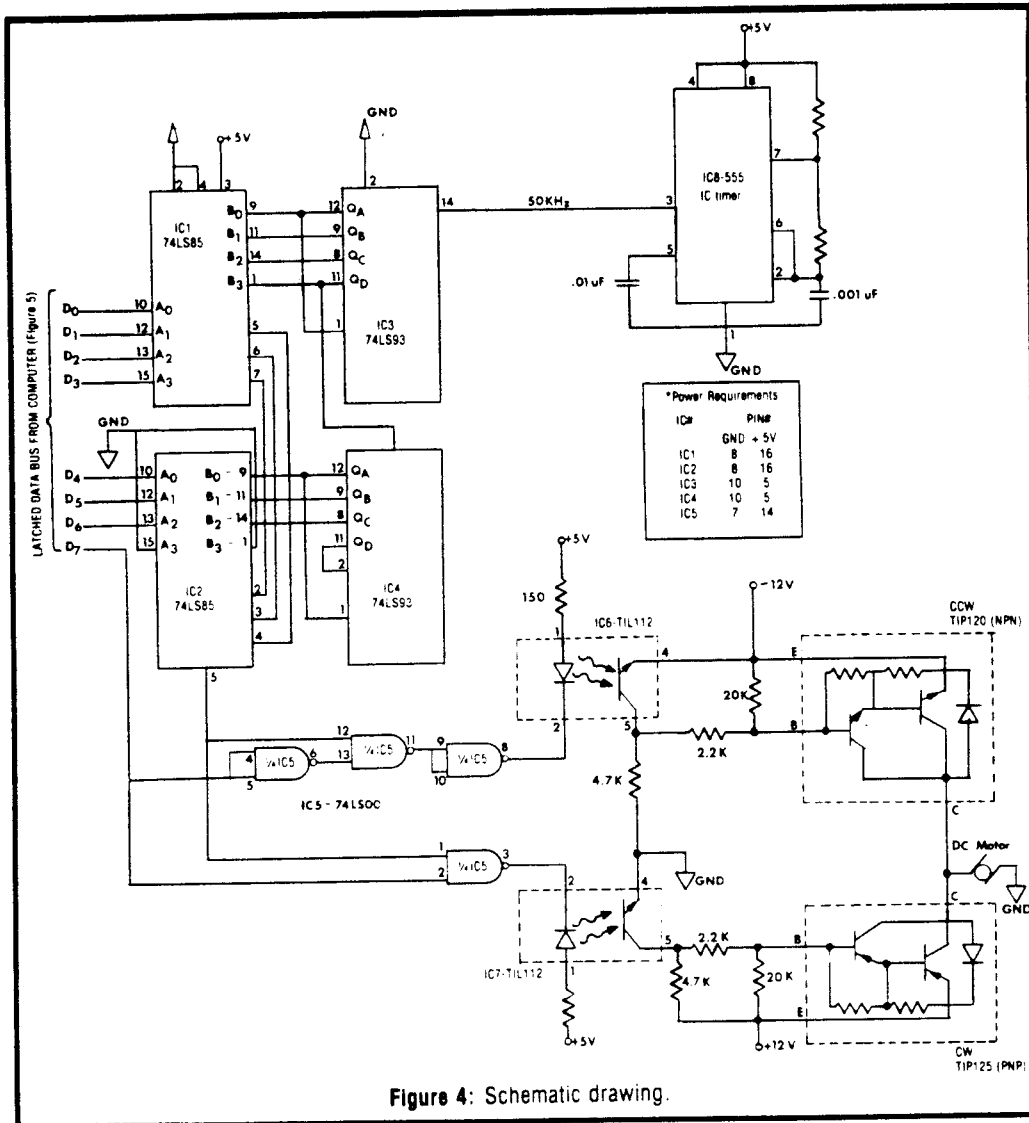

Figure 4: Schematic drawing.
Pulse Width Modulation techniques can employ either analog or digital techniques to generate the desired pulse width duty cycles. Since the PWM is to be controlled by a microcomputer, digital PWM techniques were used. In the schematic diagram of the motor control circuit (Figure 4), the PWM section consists of two 74LS85s and two 74LS93s (IC1, IC2, IC3, and IC4). The 74LS85s are four bit magnitude comparators and the 74LS93s are four bit binary counters. Each 74LS85 has two four bit ports (port A and port B). The values of these two ports are tested and, depending upon the port magnitudes, condition flags are set. The condition flags, which can be set by the 74LS85s, are A > B, A < B, and A = B. A similar set of flags are also available on the 74LS85s as condition flag inputs. This allows the comparators to be cascaded so that any number of bits can be compared. In this particular circuit the highest order bits
The information on port A of the comparator is applied by a microcomputer. Notice in Figure 4 that only seven of the eight data bus bits from the microcomputer are used as comparator inputs. The highest order bit (D7) from the microcomputer is used for controlling the motor's direction and is not used for speed control. Details on exactly how this bit controls the motor's direction will be discussed in the section on direction gating. Once the seven bit word is placed on port A of the 74LS85's, comparisons with port B automatically begin. Port B is connected to the outputs of a set of binary counters which are configured to continuously count between 0 and 127. The duty cycle of the PWM is determined by the value applied to port A of the comparator. Consider the case when a value of 0
The direction gating circuit controls the rotational direction of the DC motor. Referring to Figure 4, the direction gating consists of IC5 (a 74LS00). The highest order bit of the data bus from the microcomputer enters the gating circuit on pin 2 of IC5. A logic "0" on pin 2 turns the clockwise (CW) gate off and the counter clockwise (CCW) gate on. With the CCW gate turned on, the signal from the PWM is allowed to pass through the gate to the motor drive circuit. If a logic "1" is applied to pin 2 of IC5, the CCW gate is turned off and the CW gate is activated. The PWM signal will now pass through the CW gate to the drive circuit. The inverter between the CCW gate and the motor drive circuit is required to ensure that the CW and CCW drives circuits respond similarly to the PWM phase. The inverter is necessary because the CW driver is a PNP device which requires a logic "0" to turn on the driver. The CCW driver is a NPN device which requires a logic "1" to activate it.
The motor drive circuits amplify the voltages and the currents to drive the DC motor. Plus or minus voltages are applied to the motor to control its direction, according to the state of the direction gating circuit. The first state we will consider is the ON-CW state. In this state the PWM input (pin 1, IC5) and the control input (pin 2, IC5) are at a logic "1". The gating circuit's outputs (pin 3 and pin 8, IC5) will both be at a logic "0". Look at the CCW drive circuit in Figure 4. A logic "0" on pin 2 of the optical isolator (IC6) turns the isolator's transistor on, which applies -12 volts to the base of the TIP120 and turns the TIP120 off. With the TIP120 turned off, the motor will not be driven in the CCW direction. In the CW drive circuit, a logic "0" on pin 2 of IC7 turns the isolator's transistor on and applies a ground to the base of the TIP125, turning the TIP125 on. With the TIP125 turned on, +12 volts is applied to the motor and it will be driven in the CW direction. In the second state (OFF-CW) the PWM input goes to a logic "0" and the control input remains a logic "1". The CCW gate output (pin 8, IC5) is unchanged and the TIP120 remains off. However, pin 3 of IC5 switches to a logic "1" which is applied to pin 2 of IC7. This turns the isolator's transistor off and applies a +12 volt signal to the base of the TIP125, turning the TIP125 off. Now the motor is not being driven by either circuit and it comes to a stop. The two remaining states (ON-CCW, and OFF-CCW) operate in a similar manner to the CW states. In the ON-CCW state, TIP120 is turned on and TIP125 is turned off. This condition drives the motor in the CCW direction by applying a -12 volts to the motor. The OFF-CW state turns both the TIP120 and the TIP125 off and the motor stops. The TIP120 (NPN) and the TIP125 (PNP) are the actual current driving elements in the motor drive
Notice, in Figure 4, that IC8 is a 555 IC Timer which has been configured as an oscillator with an operating frequency at 50 KHz. This operating frequency was determined empirically. I attempted to select a PWM output frequency